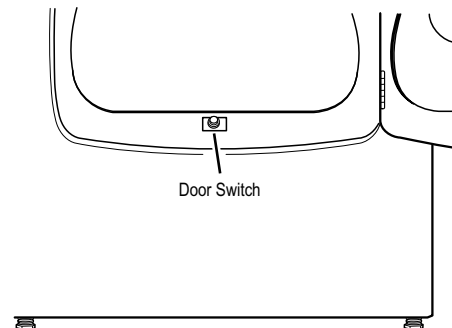

Figure 12. Door switch location.
- Check that the wires between the door switch and machine control electronics are connected. See Figure 12 for switch location, and see Removing the Front Panel/Drum Assembly.